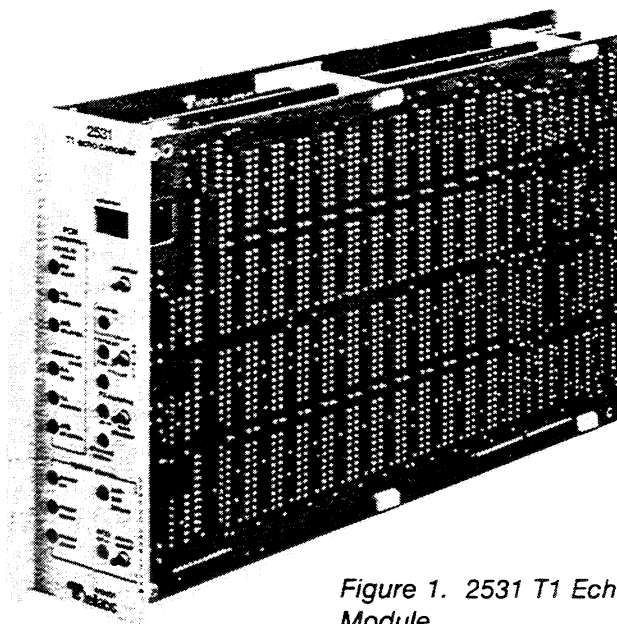

Figure 1. 2531 T1 Echo Canceller Module
- 1.01 The 2531 and 2531A T1 Echo Canceller Modules (figure 1) are adaptive, split-type echo-control systems that directly interface 1.544 Mb/s T1 digital carrier facilities at the DS1 level. A single module provides individual echo control for all 24 channels of a T1 facility. The only difference between the 2531 and 2531A Modules (referred to collectively as 2531/2531A) is that the 2531 operates with an end-path delay of up to 32ms, whereas the 2531A operates with an end-path delay of up to 64ms. (Keep in mind that this is the delay between the 2531/2531A and the near-end station — the amount of delay between near-end and far-end stations has no effect on the canceller.)